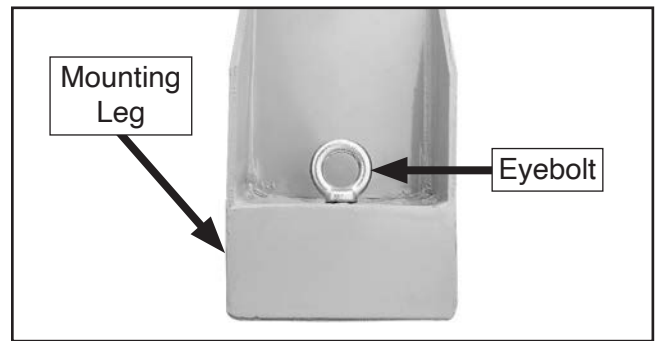

Figure 23. Eyebolt location on mounting leg.
5. Remove (6) eyebolts from mounting legs (see **Figure 23**).